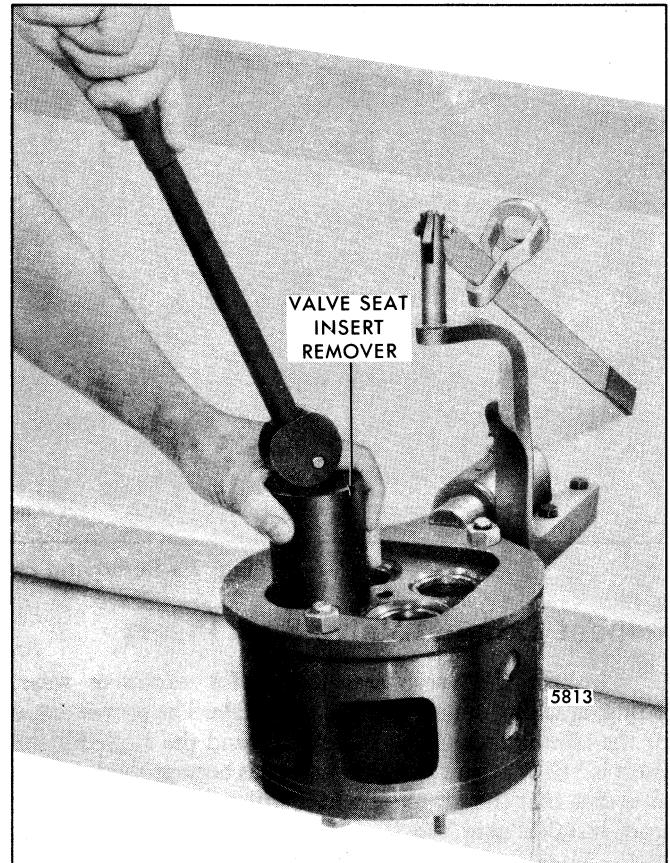

Fig. 10 - Removing Valve Seat Insert
1. Bolt the cylinder head in the holding fixture J 23741-A (Fig. 10).